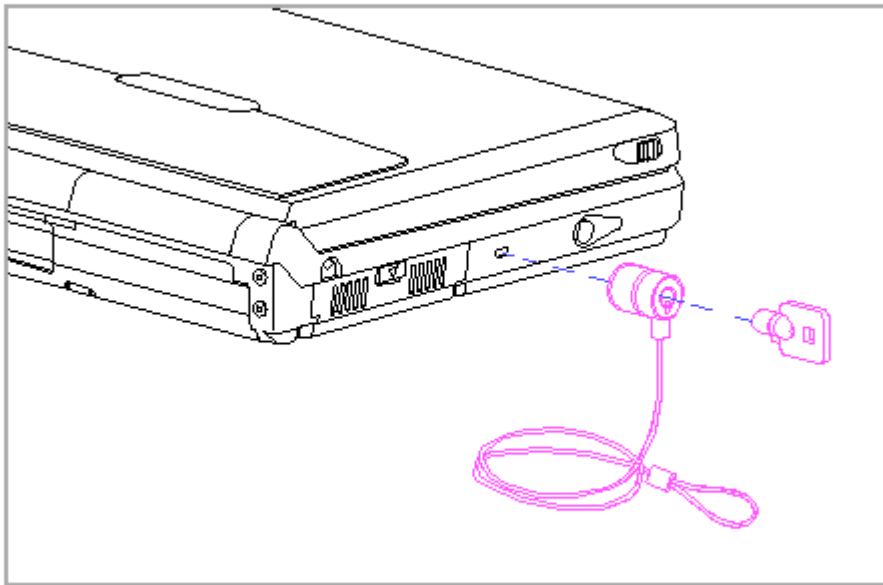

Figure 1-18. Kensington Cable Lock
- o Provision for an optional cable lock (Figure 1-18) to lock the computer to an immovable object.